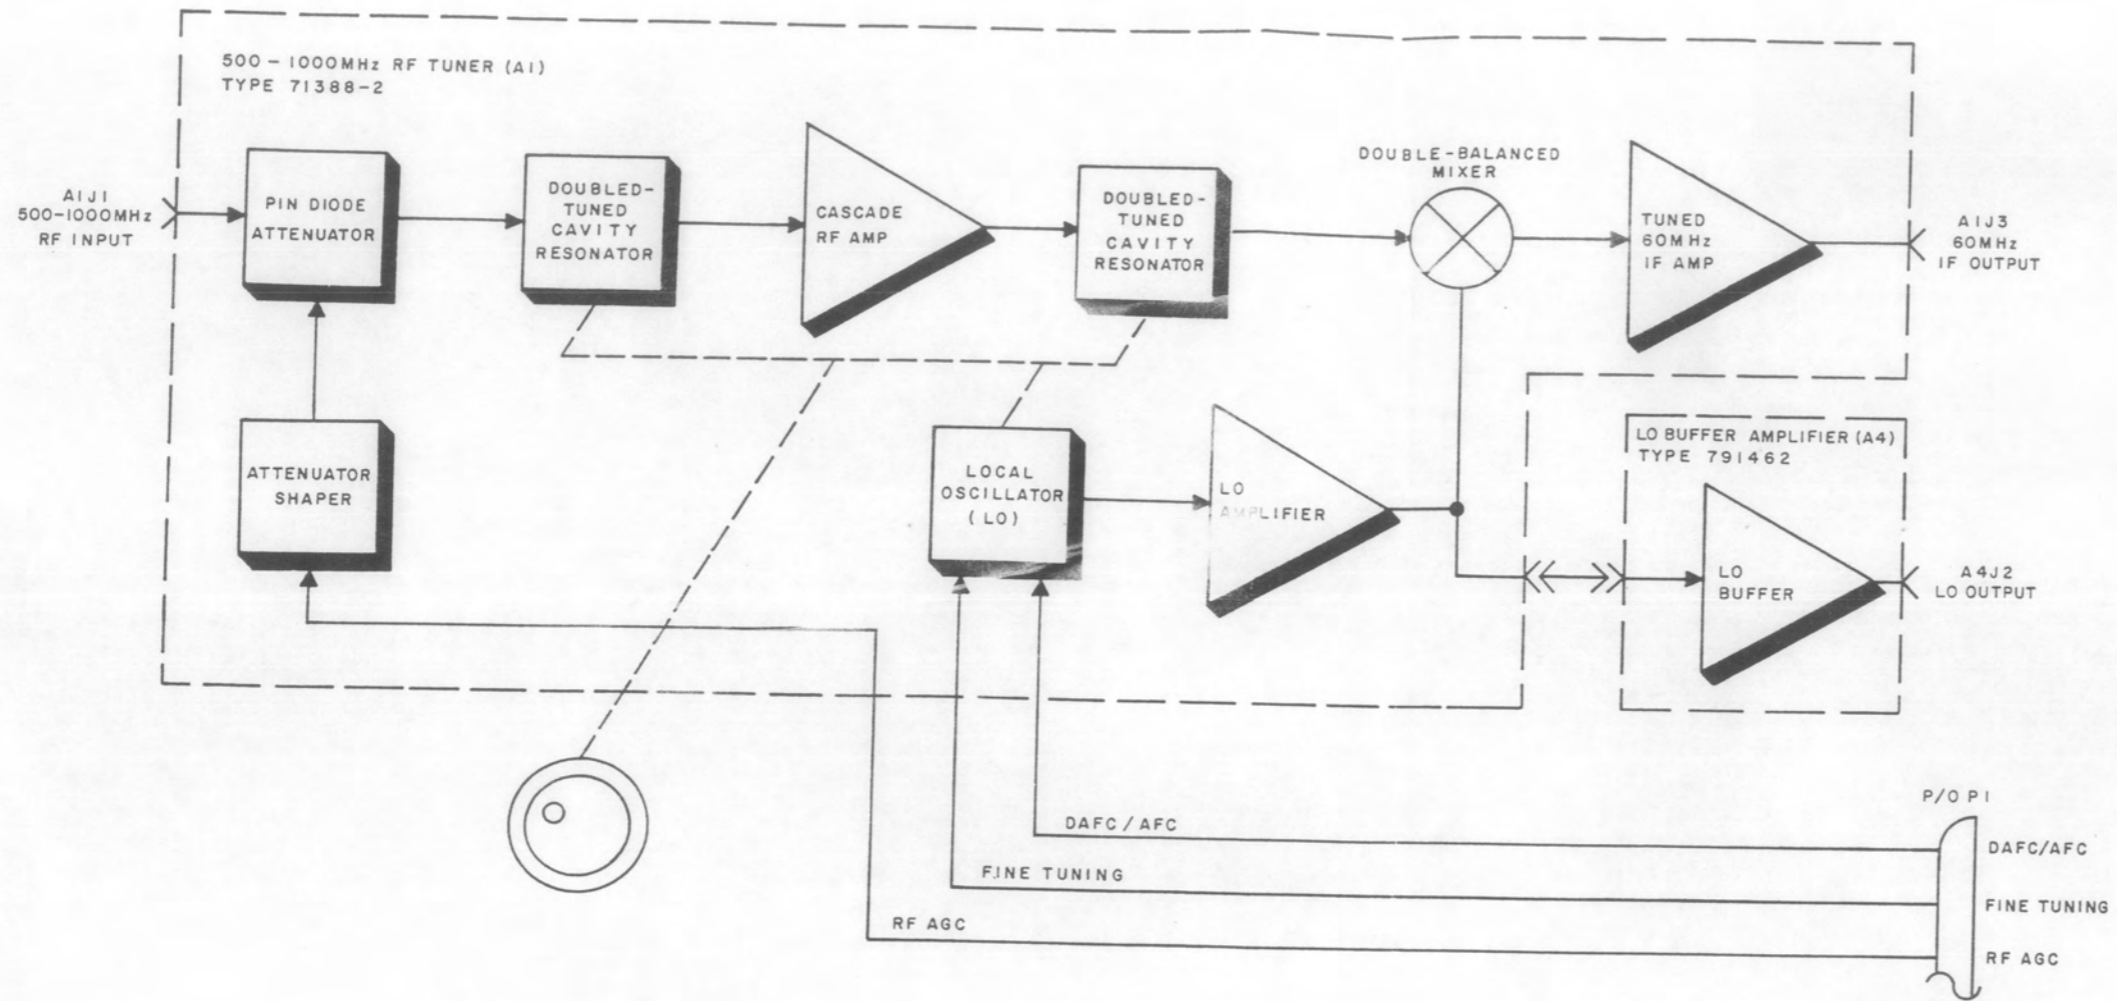

Figure 3-5. WJ-9065-3 Tuning Head (A4),
3.7.1 GENERAL. - Figures 6-8 and 6-9 are the schematic diagrams for the WJ-9065-3 Tuning Head. Referring to functional block diagram Figure 3-5, incoming rf signals in the 500-1000 MHz range are applied to a PIN diode attenuator through A1J1. The attenuator is controlled by the rf agc voltage (as modified by the attenuator shaper) developed in the receiver i-f stages, resulting in an rf agc voltage-controlled attenuation from less than 1 dB to at least 40 dB. The attenuator shaper produces an agc characteristic that is more compatible with the PIN diode attenuator.
3.7.2 TYPE 71388-2 500-1000 MHz RF TUNER (A4A1). - Figure 6-9 is the schematic diagram for the rf tuner. Refer also to the WJ-9065-3 functional block diagram (Figure 3-5) for the following circuit description.